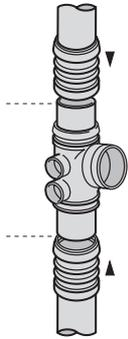

Fig.5c Initial assembly
Step 5 – Assemble new unit with a short length of pipe in appropriate sockets (Fig.5c)